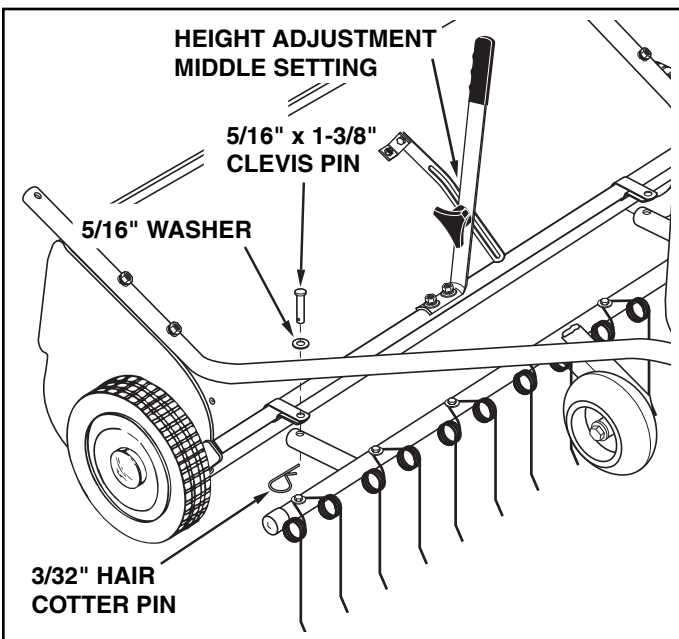

FIGURE 4
11. Connect the dethatcher to the conduit clamp using two 5/16" x 1-3/8" clevis pins, 5/16" washers and 3/32" hair cotter pins. See figure 4.